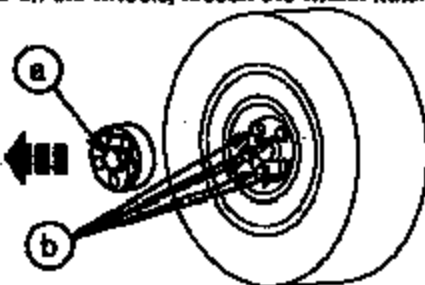

FIGURE 1
2. Loosen the wheel nuts (refer to Figure 1).